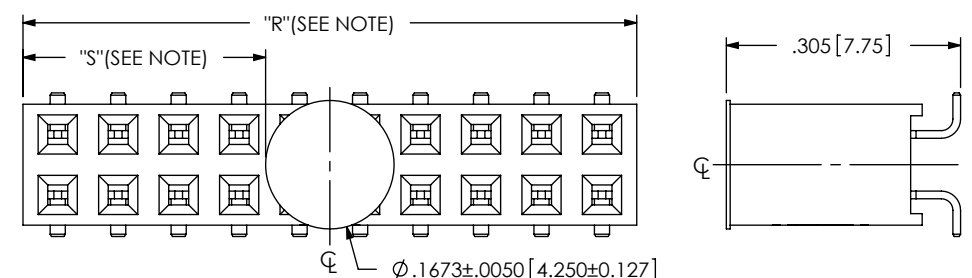

FIG 7
-K: POLYAMIDE FILM PAD (4 POS MIN) (USE K-500-300, SEE FIG 7, SHT 2) (.005 [.13] THICKNESS WITH SILICONE ADHESIVE)